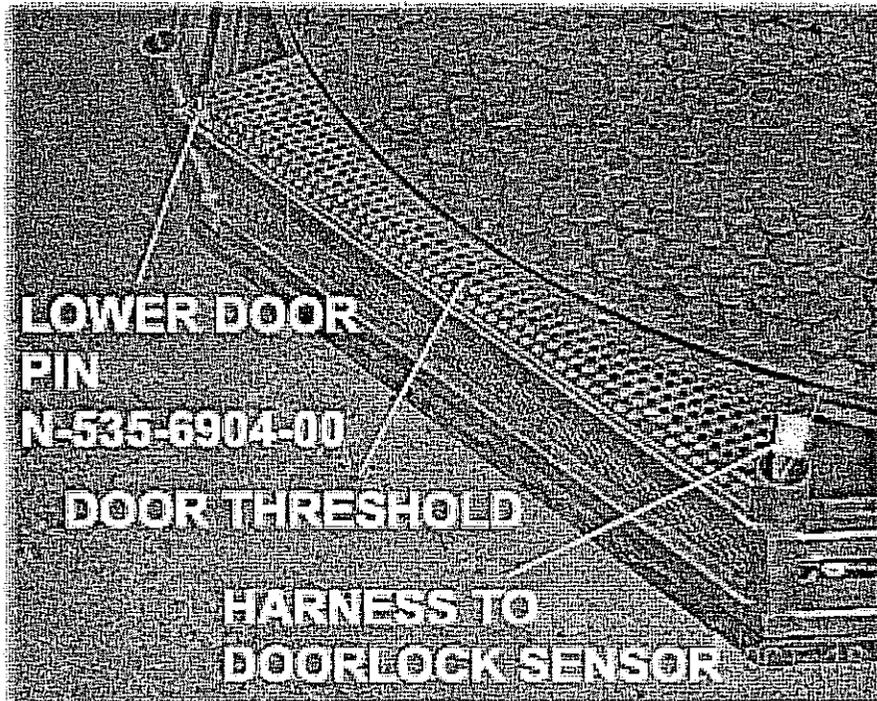

Figure 34
8. Install the doorframe. Add nylon washers to the lower pin, (See figure 34), to ensure proper alignment between the deadbolt and the deadbolt hole and sensor.